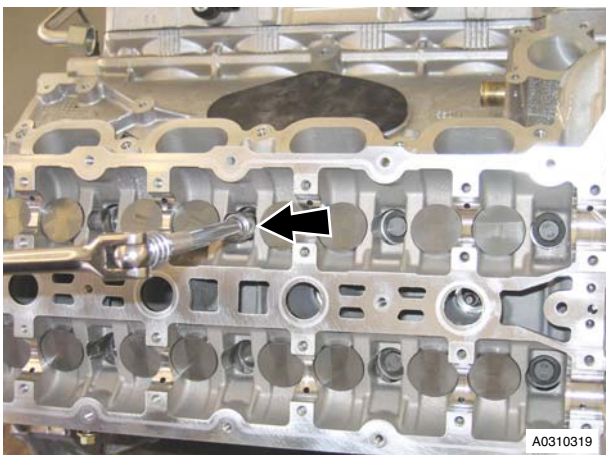

Figure 3
11. Remove bolts (x10), evenly and in stages securing LH cylinder head to cylinder block (see Figure 3).